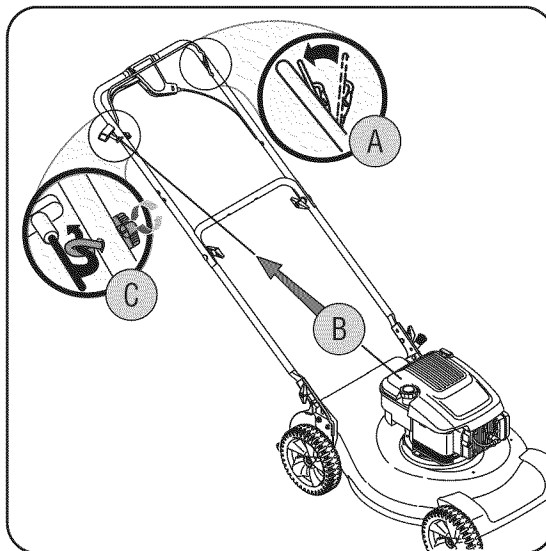

Figure 3
3. The rope guide is attached to the right side of the upper handle. Loosen the wing nut which secures the rope guide. See Figure 3.